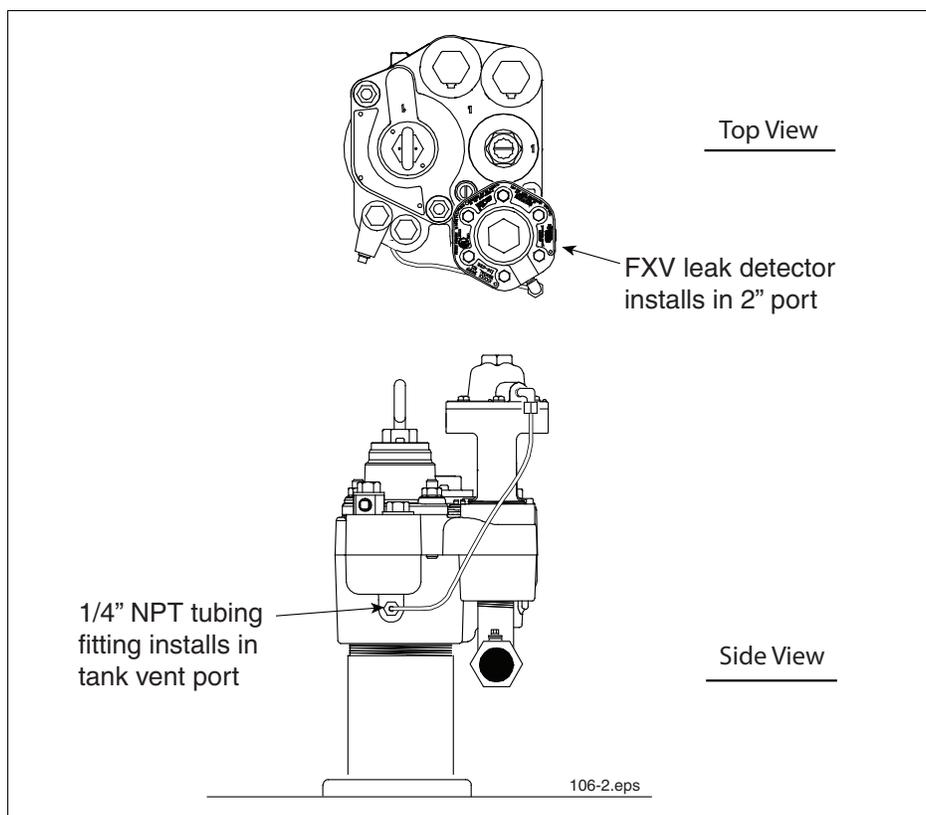

Figure 3. Installing FXV in The Red Jacket pump
- a. Remove 1/4-inch pipe plug from tank test port (on 6-inch Big-Flo applications, remove the 1/4-inch pipe plug from the riser/flange assembly, for The Red Jacket pumps see Figure 3 and for the Standard pump see Figure 5).